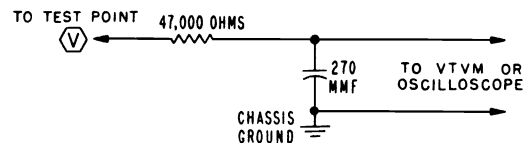

Fig. 4 DECOUPLING FILTER
Connect VTVM high side to test point "V" through a decoupling filter, see Figure 4. Connect low side to chassis.
3. Connect oscilloscope high side to test point "V" through a decoupling filter (figure 4.), low side to chassis.